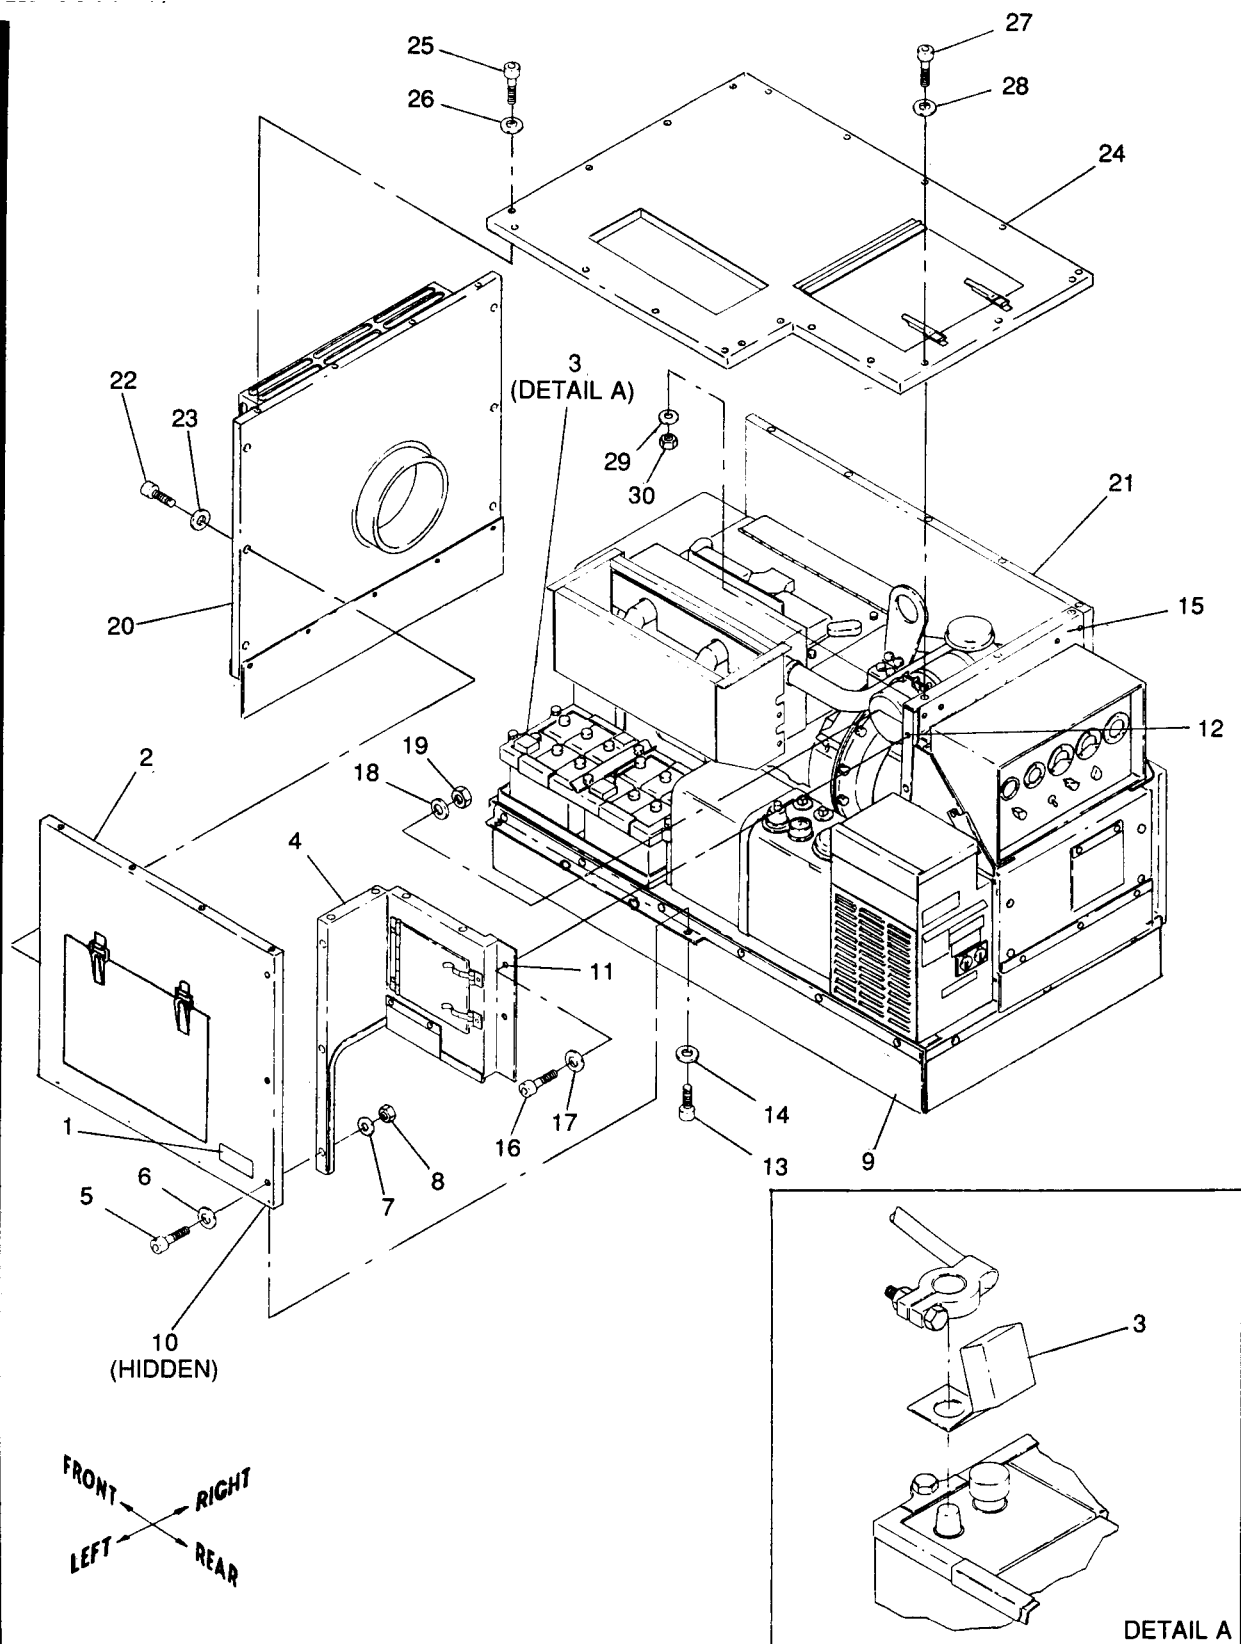

Figure 10-6. Installation of Left Panel, Side Closure, Front Panel and Top Panel Assemblies
11.	Top Panel (24, fig. 10-6)
(1) Remove battery connection instruction plate mounted next to batteries by breaking off rivet heads with hammer and chisel. Clean underside of plate. Refer to figure 10-6 and reinstall plate (1) on left panel assembly (2) at location shown with double sided tape (as listed in Table 10-1, item 8).
(2) Refer to Figure 10-6, detail A, and install battery terminal covers (3). Disconnect cable clamps from battery terminals. Place 4 each terminal covers (3) over battery
(1) Refer to figure 10-6 and clear out acoustic fill from holes in front panel assembly (20) using 3/8 inch diameter pin.
(2) Install front panel assembly (20) to right panel assembly (21) and left panel assembly (2) with six screws (22) and six washers (23) (as listed in table 10-1, item 10). Start all screws by hand first.
(3) Torque screws (22) to 18 $\pm$ 2 in.-lbs dry.
(1) Refer to figure 10-6 and clear out acoustic fill from holes in top panel assembly (24) using 3/8 inch diameter pin.
(2) Locate top panel assembly (24) by aligning holes in top panel assembly (24) with captive nuts in left panel assembly (2), right panel assembly (21) and front panel assembly (20), and with holes in side closure assembly (4) and rear closure assembly (15).
(3) Install top panel assembly (24) to left panel assembly (2), right panel assembly (21) and front panel assembly (20) with 13 screws (25) and 13 washers (26). Install top panel assembly (24) to side closure assembly (4) and rear closure assembly (15) with seven screws (27), 14 washers (28 and 29) and seven-locknuts (30) (as listed in Table 10-1, item 11).
(4) Torque screws (25) to 18 ± 2 in.-lbs dry.
(5) Torque screws (27) to 16 ± 2 ft-lbs dry.